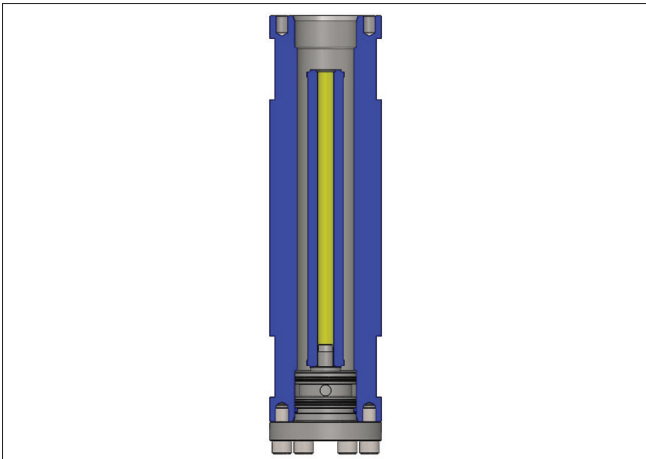

Figure 6: Filter Element inside housing.
- g. Inspect Filter Housing sealing surface (see figure 6). Ensure component is not contaminated or damaged
- h. Inspect new filter element. Install inside housing (see figure 6)